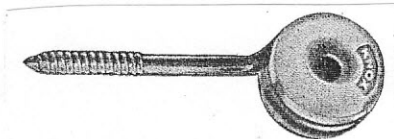

Figure 4: screw eye standoff
- Figure 4: Knox Porcelain catalog
pictured on pg. 7 figure 4